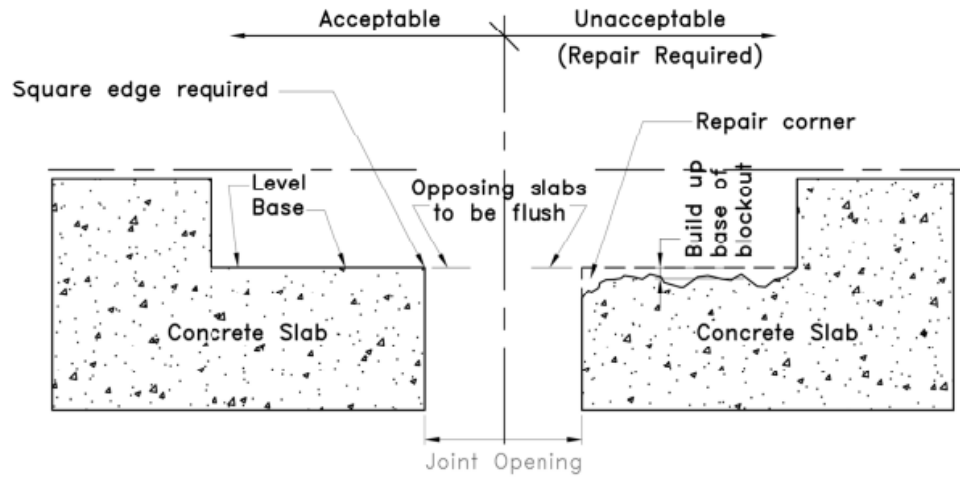

FIGURE 2
2. Repair corner of concrete slab and blockout base following manufacturers written instructions. **SEE FIGURE 2**